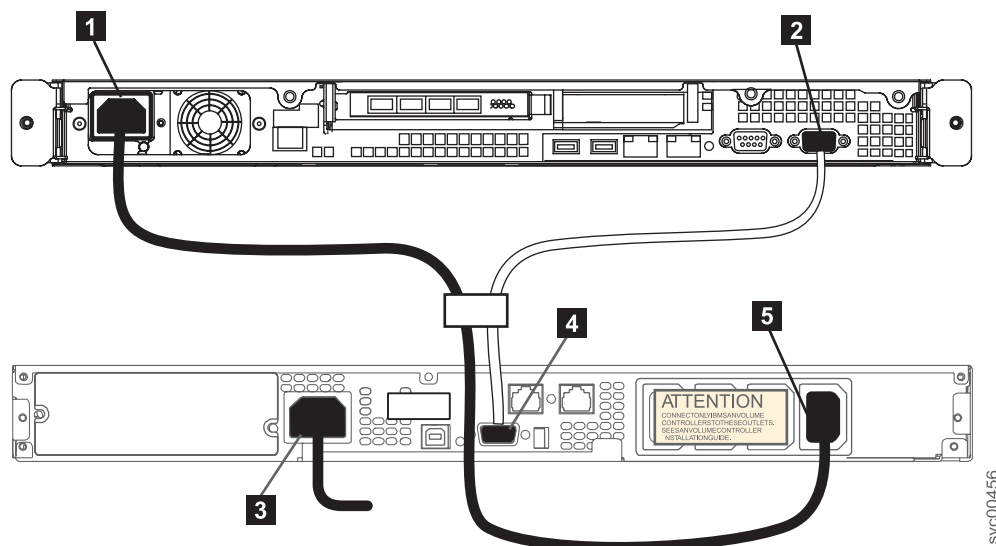

Figure 27. Connecting the SAN Volume Controller 2145-8A4 power cable to the 2145 UPS-1U
1. At the back of the SAN Volume Controller 2145-8A4 node, plug the power cable of the combined power and serial cable into the power connector **1**, as shown in Figure 27.